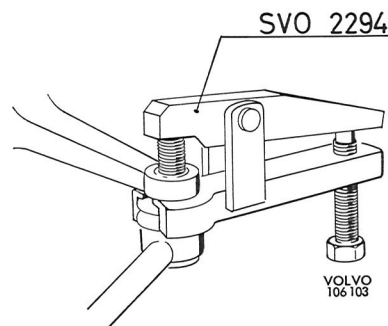

Fig. 6-21. Removing steering rod
3. Disconnect the steering rods from the steering arms with tool 2294 according to Fig. 6-21.
3. Remove the steering rod from the steering arm with tool 2294, see Fig. 6-21.
3. Disconnect the steering rod from the steering arm with tool 2294, see Fig. 6-21, and disconnect the brake lines from the stabilizer bolt.